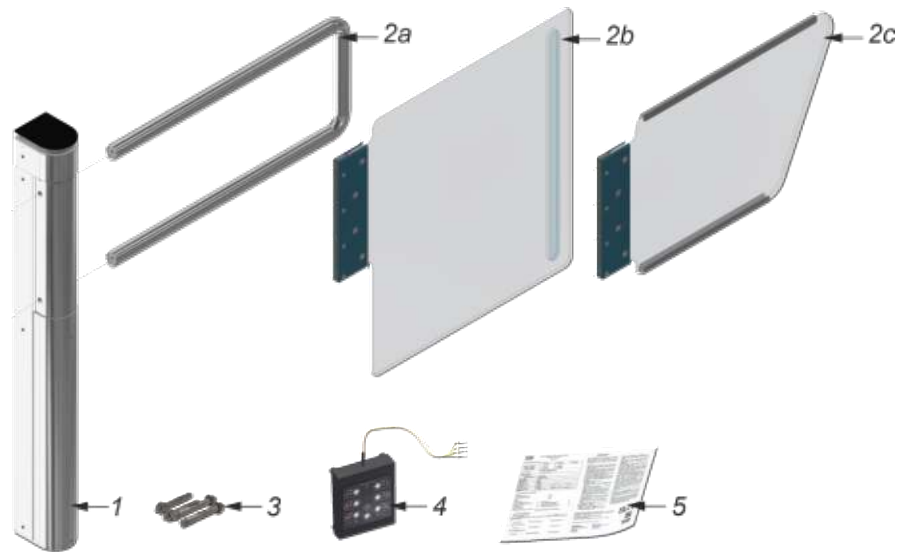

Fig.2 – Gate turnstile scope of delivery
- For convenience of delivery the turnstile is supplied ready-to-install with dismantled barrier arms (See Fig.2).